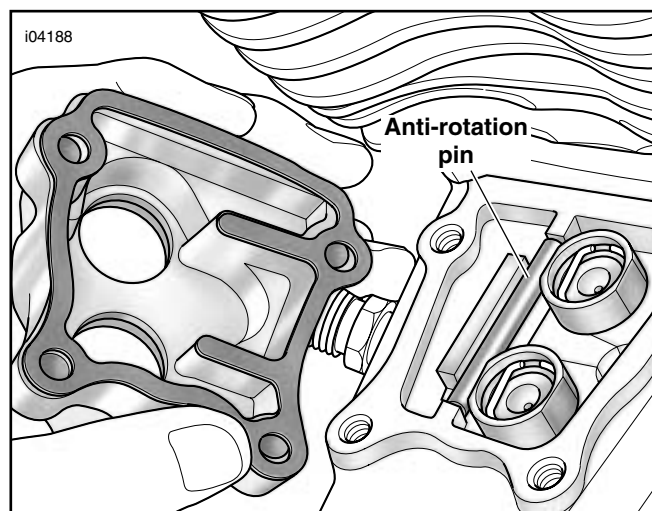

Figure 3. Lifter Anti-Rotation Pin
1. See Figure 3. Verify that the lifter anti-rotation pin is in position.